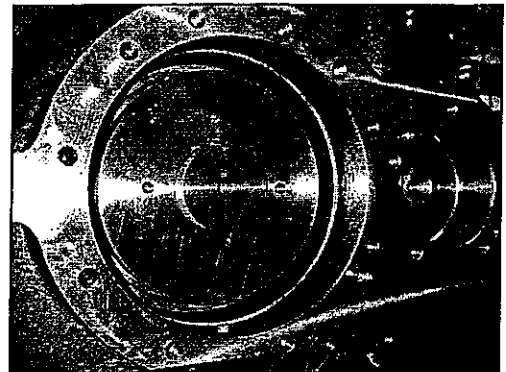
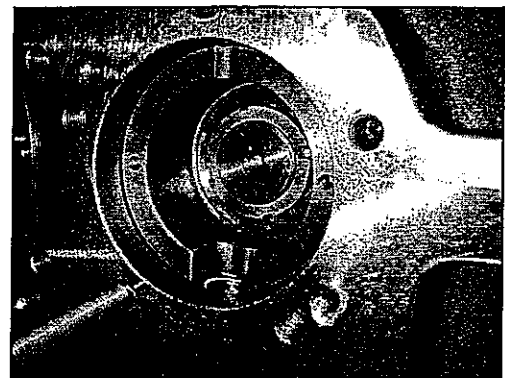

Fig. 3-37
Fig. 3-38
(22) Install Balance Piston (A03), (A04) on the rotor shaft and fix them by Lock Nut (K34), (K35) and Lock Washer (L23), (L25) using special tool.
(23) Install Piston Ring (B08), (B09) (Fig. 3-38) and Balance Piston Casing (B06), (B07) (Fig. 3-37) to Side Casing (B04).